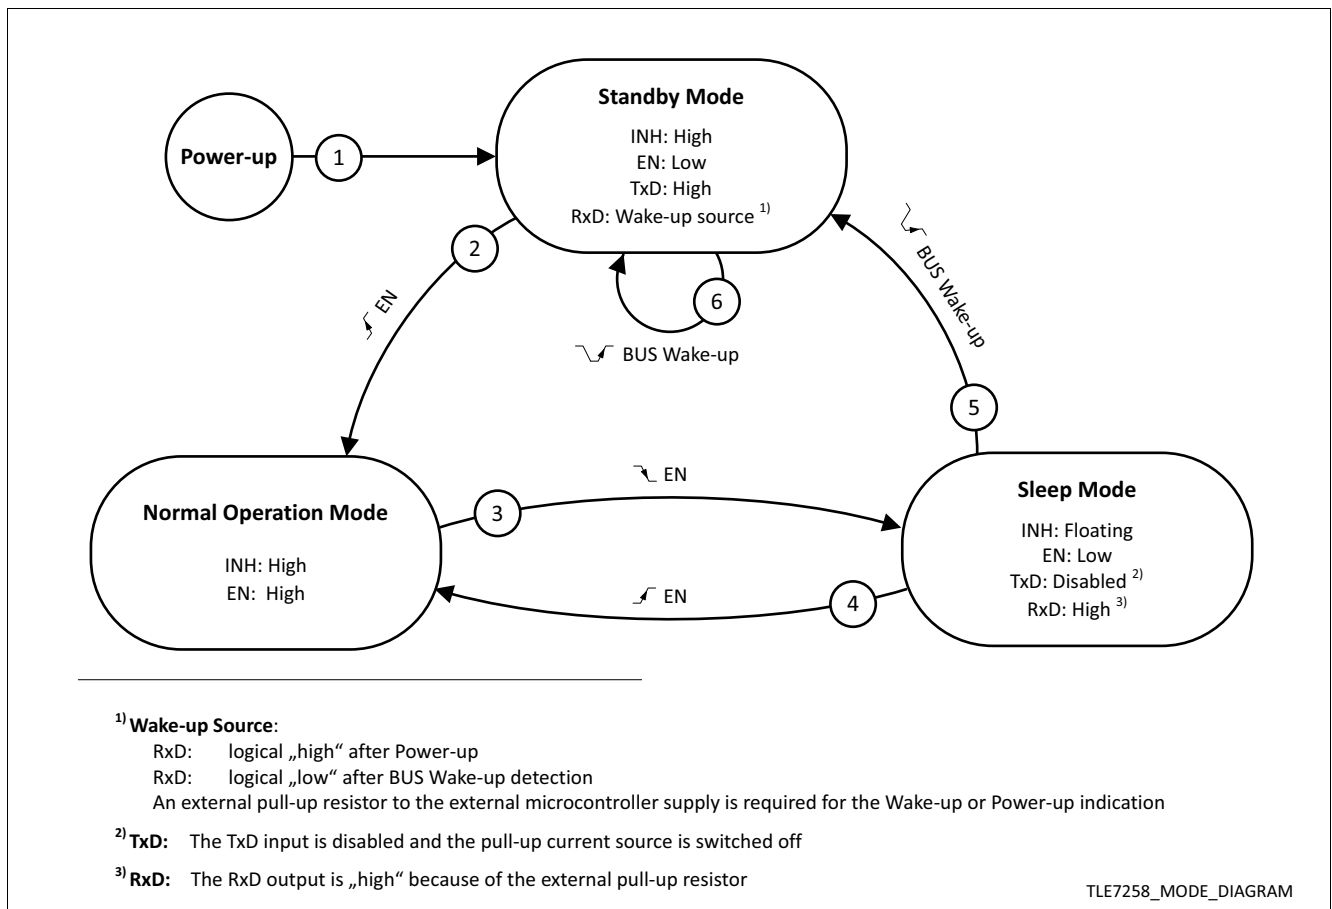
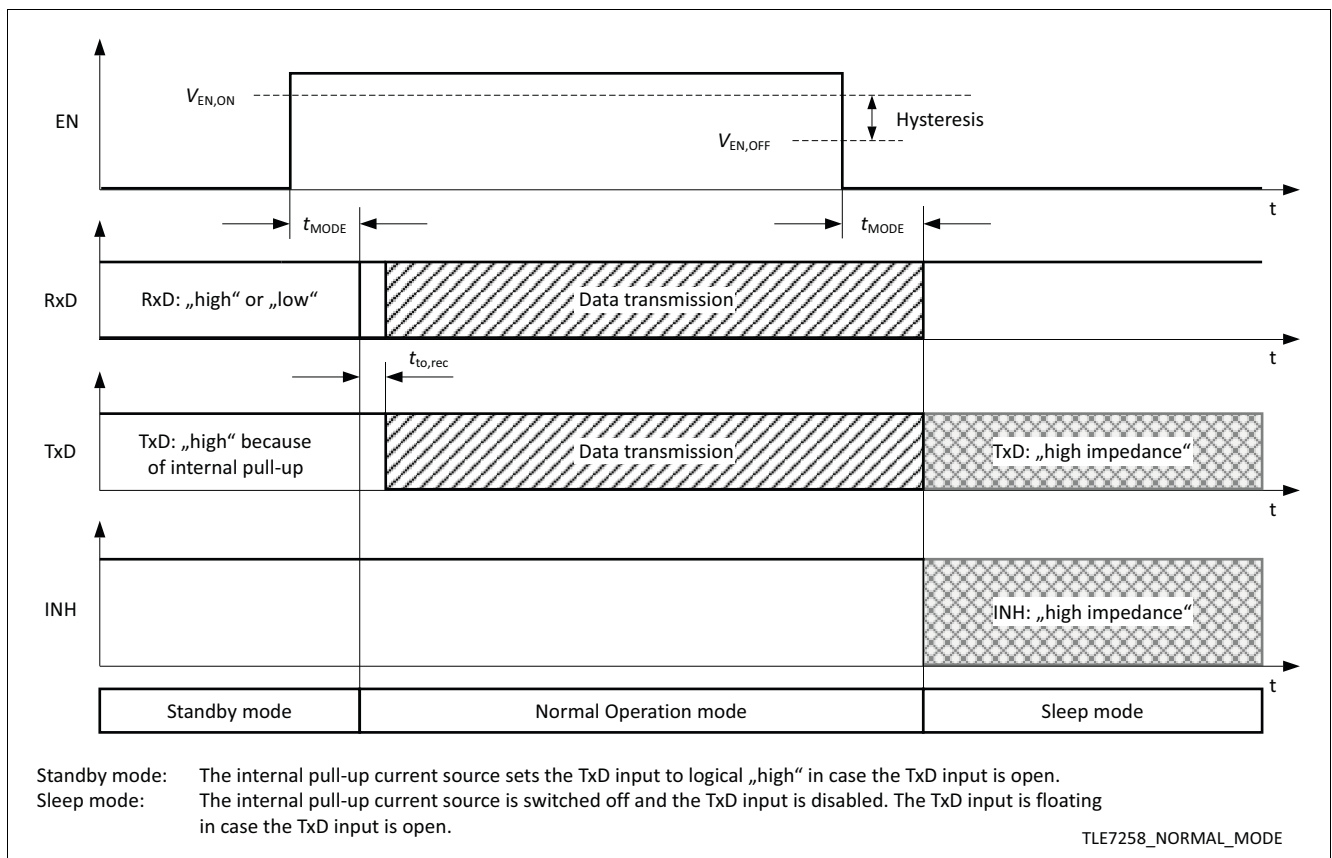
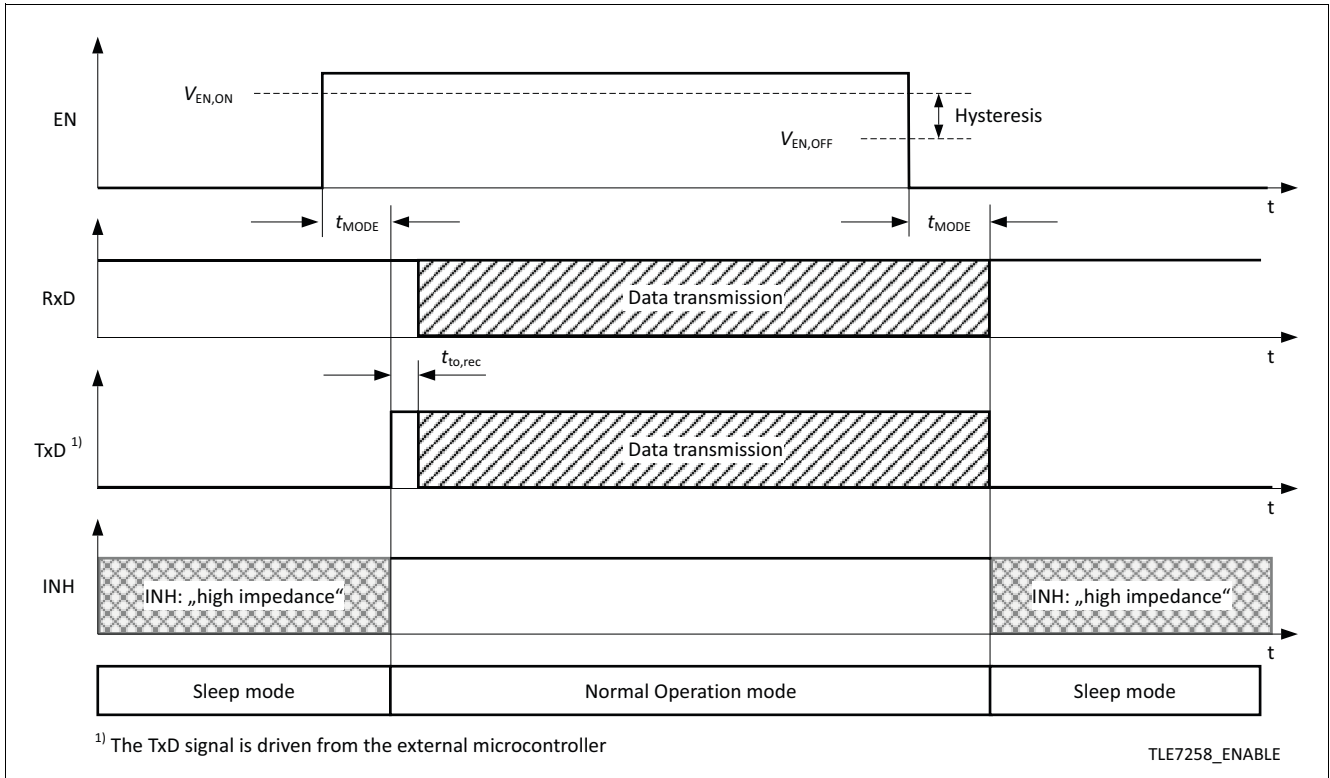

Figure 4 Operation mode state diagram
Figure 5 Entering Normal Operation mode from Standby mode
Figure 9 Entering Normal Operation mode from Sleep mode
The TLE7258 has 3 major operation modes (see Figure 4):
Normal Operation mode can be entered from either Sleep mode (see Figure 9) or from Standby mode (see Figure 5), by setting the EN input to logical "high". From Normal Operation mode the TLE7258 can only enter Sleep mode, it is not possible to enter Standby mode directly (see Figure 4).
After a mode change to Normal Operation the TLE7258 requires a logical “high” signal for the time $t_{to,rec}$ on the TxD input before releasing the data communication (see Figure 5). The transmitter remains deactivated as long as the signal on the TxD input remains logical “low”, preventing possible bus communication disturbance.
- The RxD output indicates either a wake-up event or a power-up event (see Figure 4 and Table 1).
- The EN input is active. A “high” signal on the EN input triggers a transition to Normal Operation mode (see Figure 5).
To switch the TLE7258 from Normal Operation mode to Sleep mode, the EN input has to be set to “low”. Conversely a logical “high” signal on the EN input sets the device directly back to Normal Operation mode (see Figure 4). The TLE7258 can only enter Sleep mode from Normal Operation mode.
The EN input is used for operation mode control of the TLE7258. By setting the EN input logical “high” for the time t_{MODE} while being Sleep or Standby mode, a transition to Normal Operation mode will be triggered (see Figure 9). The EN input has an integrated pull-down resistor to ensure the device remains in Sleep or Standby mode even if the EN pin is left open. The EN input has an integrated hysteresis.
A signal transition from logical “high” to “low” on the EN input changes the operation mode from Normal Operation mode to Sleep mode (see Figure 5).